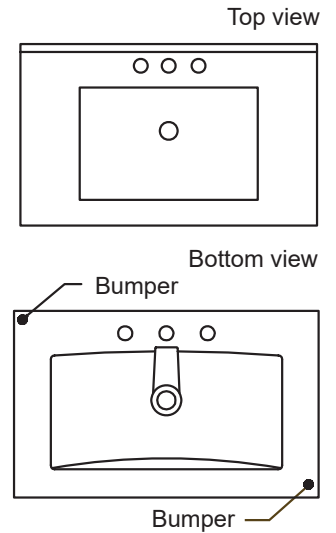

Figure 5
- 2c) Apply the bumpers adhesive side down on the corners of the vanity top that you identified in *Step 2a*. Figure 5.